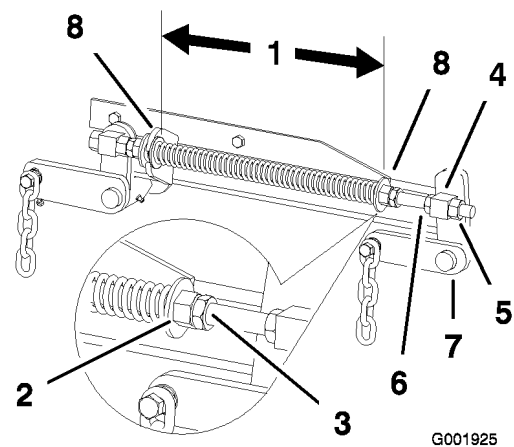

Figure 62
2. Check the distance between the two large washers, it needs to be 11-1/8 inches (28.2 cm) for 52 inch mower decks and 10-1/2 inches (26.7 cm) for 60 inch mower decks (Figure 62).
3. Adjust this distance, by loosening the spring jam nut and turning the nut in front of each spring (Figure 62).
4. Lock the nut into position by tightening the spring jam nut (Figure 62).